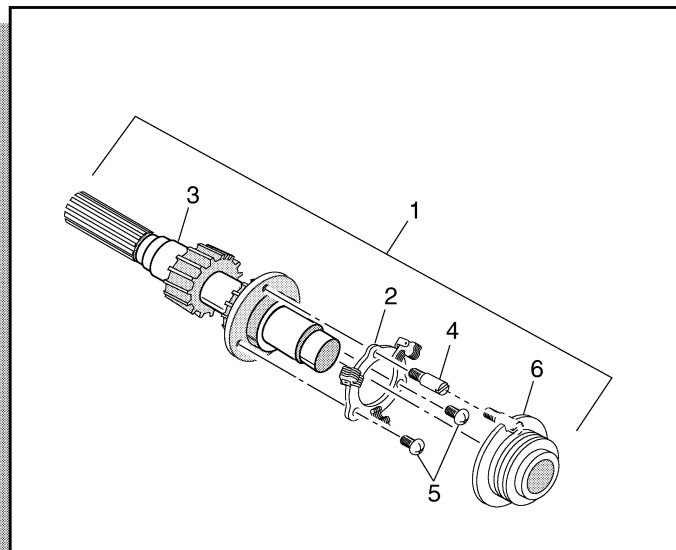

Fig. C-1 Input Shaft Assembly
1. Position the governor plate (2) on the input shaft (3) and install the lock pin (4) and two screws (5). Use 262 Loctite on lock pin and screw threads, and tighten to specified torque (Ref Fig. C-1 on page C-1).
2. Install the governor sleeve (6) on the input shaft, with the lock pin in the notch as shown.